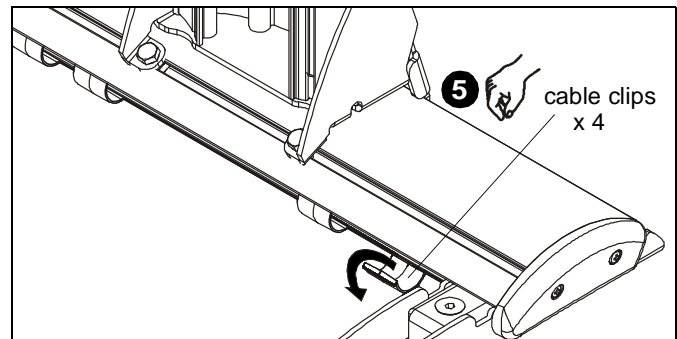

Figure 55
5. Open cable clips along bottom edge of wall bracket. (See Figure 55)